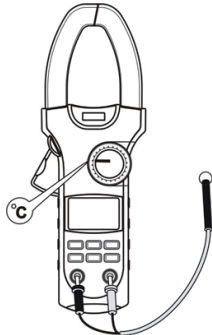

Figure 9
G. Measuring Temperature (UT208A Only, See Figure 9)